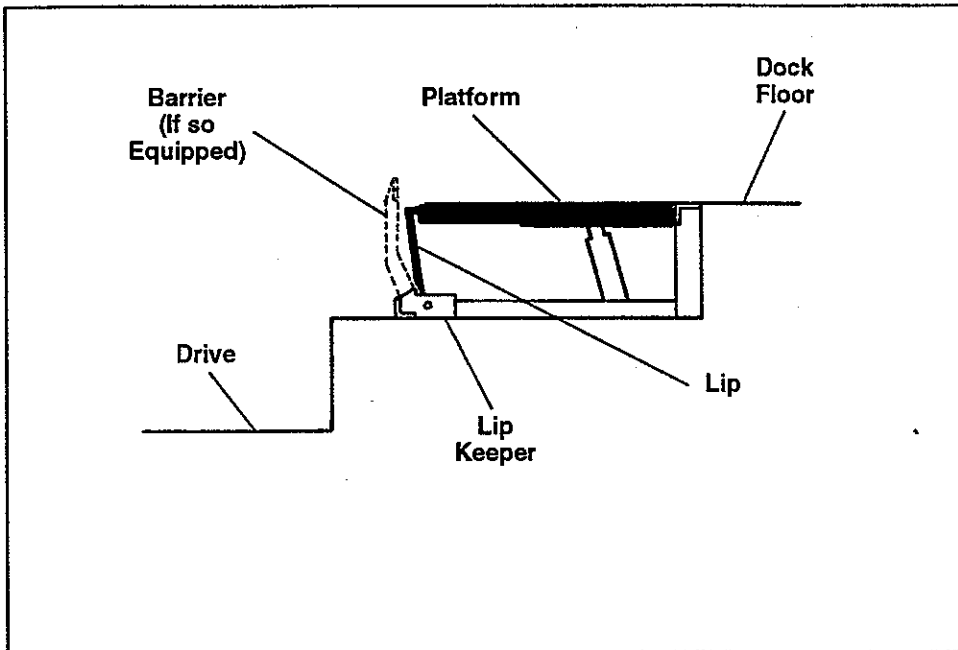

Fig. 3. Dock Leveler in Cross Traffic Position
11. Using the method employed in step 7, raise the dock leveler platform and store the maintenance prop under the platform. Lower the platform, setting it in the cross traffic position (lip fully folded, inside the keepers, and the platform level with the dock floor). See Figure 3.
24. If the dock leveler is in the cross traffic position (see Figure 3), use a fork truck (or other method) to raise the platform and set it on the maintenance prop. Refer to steps 7 and 8, page 5.
Set the dock leveler on the maintenance prop if the maintenance procedure (or troubleshooting) requires access to the unit from in the pit. Raise the leveler by pressing the "RAISE" button. Position the prop in the maintenance prop keeper as shown in Figure 3 of the Installation Instructions.